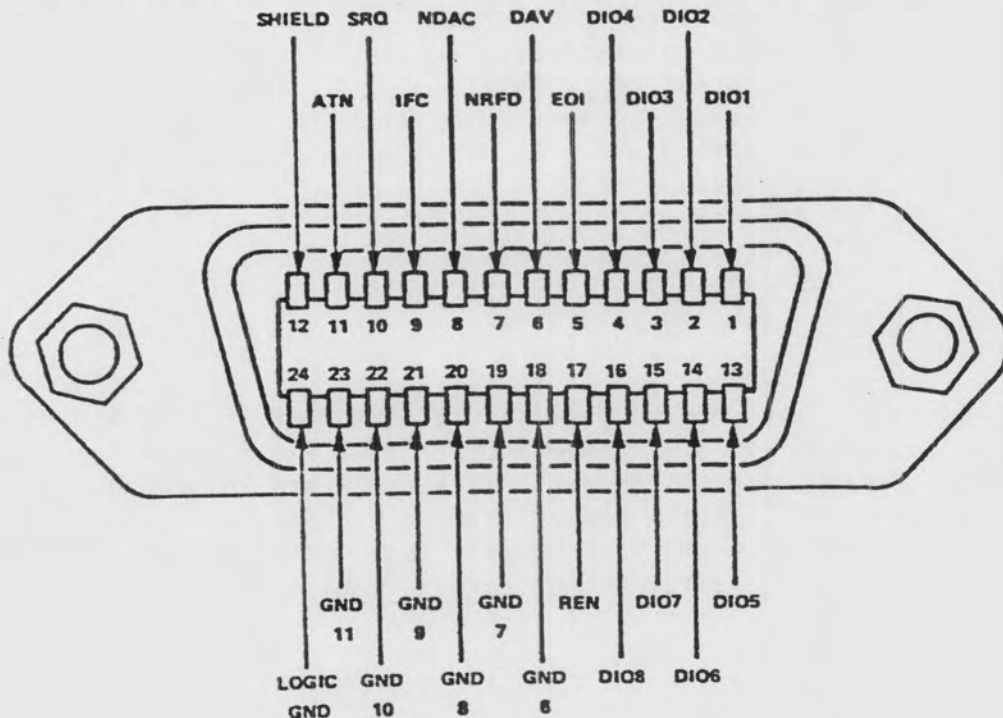

FIGURE 2-2. IEEE-488 STANDARD CONNECTOR
- J. Optional IEEE-488 General Purpose Interface Bus (GBIB) connector (J14), type IEEE-488/ANSI MC1.1, with connections as showing in Figure 2-2.
- 2.3.3.1. Aircraft Installations. For optimum results, the monopole antenna should be installed on the underside of the aircraft on a flat surface as far away as possible from obstructions such as other antenna and landing gear. Its location must not interfere with the safe operation of the craft and should not be exposed to excessive amounts of gas, oil or engine exhaust. A sheltered route must exist for inter-unit cables. Recommended antenna locations for typical aircraft are as shown in Figure 2-2. The antenna is capable of operation up to air speeds of 1/4 knots (200 mph, 322 Km/hr) when securely mounted on a structure capable of withstanding the